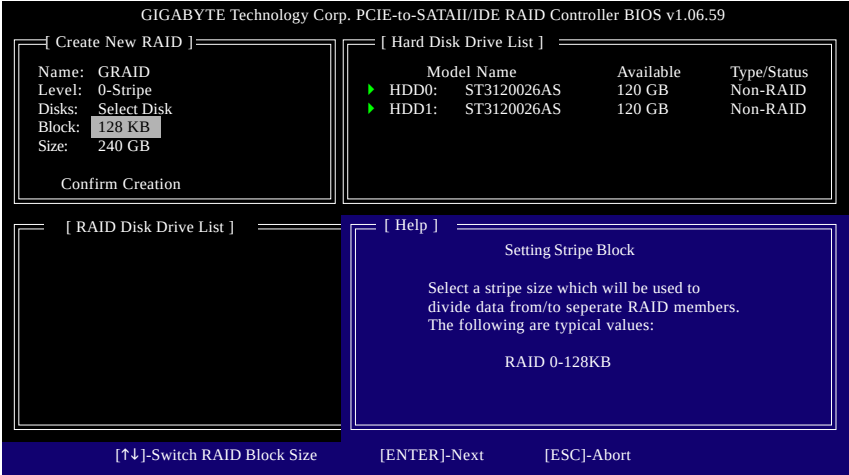

Figure 6
4. Set Block Size (RAID 0 only): Under the Block item, use the up or down arrow key to select the stripe block size (Figure 6), ranging from 4 KB to 128 KB. Press <Enter>.